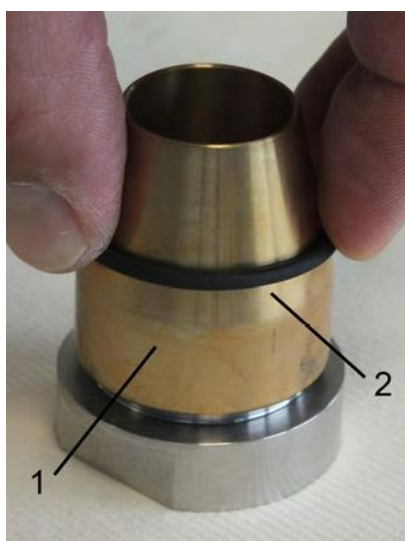

Fig. 53: O-ring (seal)
1. ► Carefully install the O-rings (Fig. 53/2) with the aid of the O-ring installation tool (Fig. 53/1) onto both process connections (inlet and outlet), so that they are properly seated in the O-ring grooves of the process connection (Fig. 54/1). When doing so, be careful not to overstretch the O-rings.